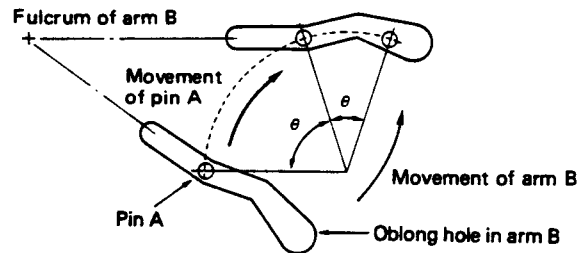

Fig. 12
4. The oblong hole of arm "B" is as shown in Fig. 12. The cassette tape draw-in process will be complete when the pin "A" degree of rotation is  $\theta$ . Arm "B" will not move while the degree of rotation is  $\theta'$ .